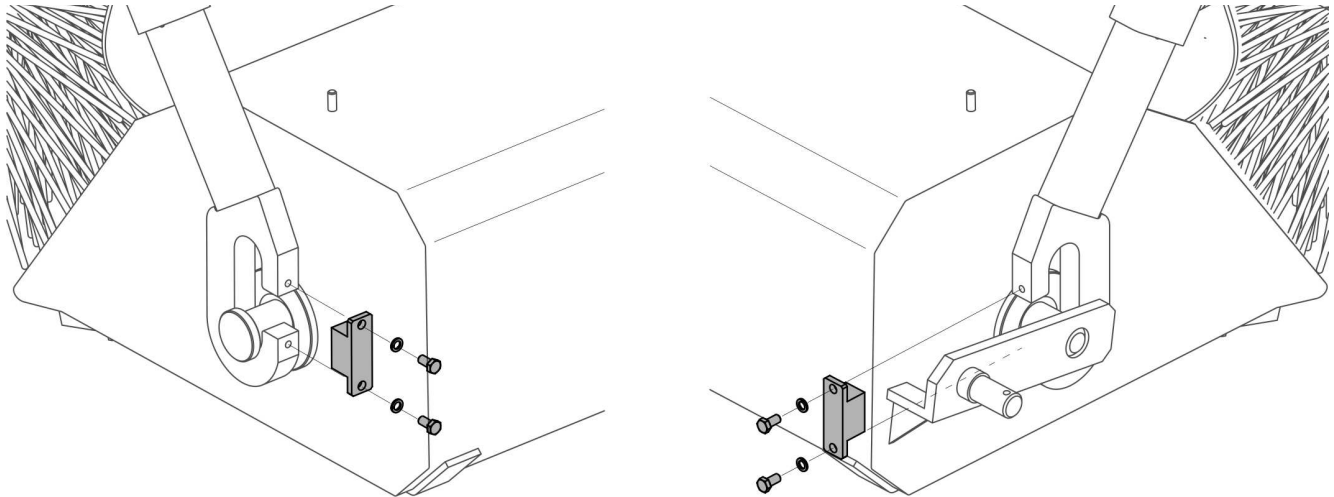

FIG. 4.7 Removing safety locks of waste tank catches
- After removing the fixing bolts remove arm safety locks on the right and left side of the tank (FIG. 4.7) and then remove the tank from catches. When the above preparations are completed, the machine is ready for sweeping without waste tank.